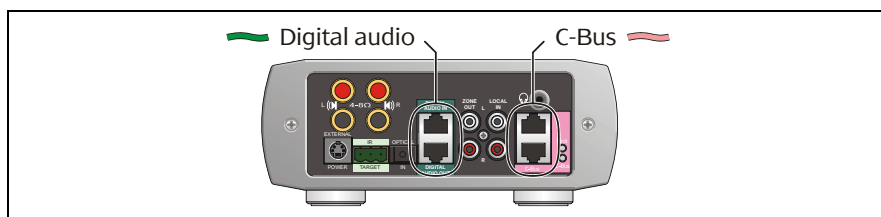

Figure 1 – Never plug a C-Bus cable into a digital audio socket or vice versa
- Both C-Bus and digital audio cables are terminated with RJ45 connectors. Never plug either of these cables into the wrong socket. C-Bus cable is pink. The RJ45 sockets on the rear of the Desktop Amp are identified in Figure 1.